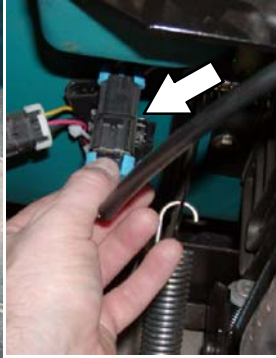

FIG. 4b
2. Plug the actuator into the main wire harness (Fig. 4b)